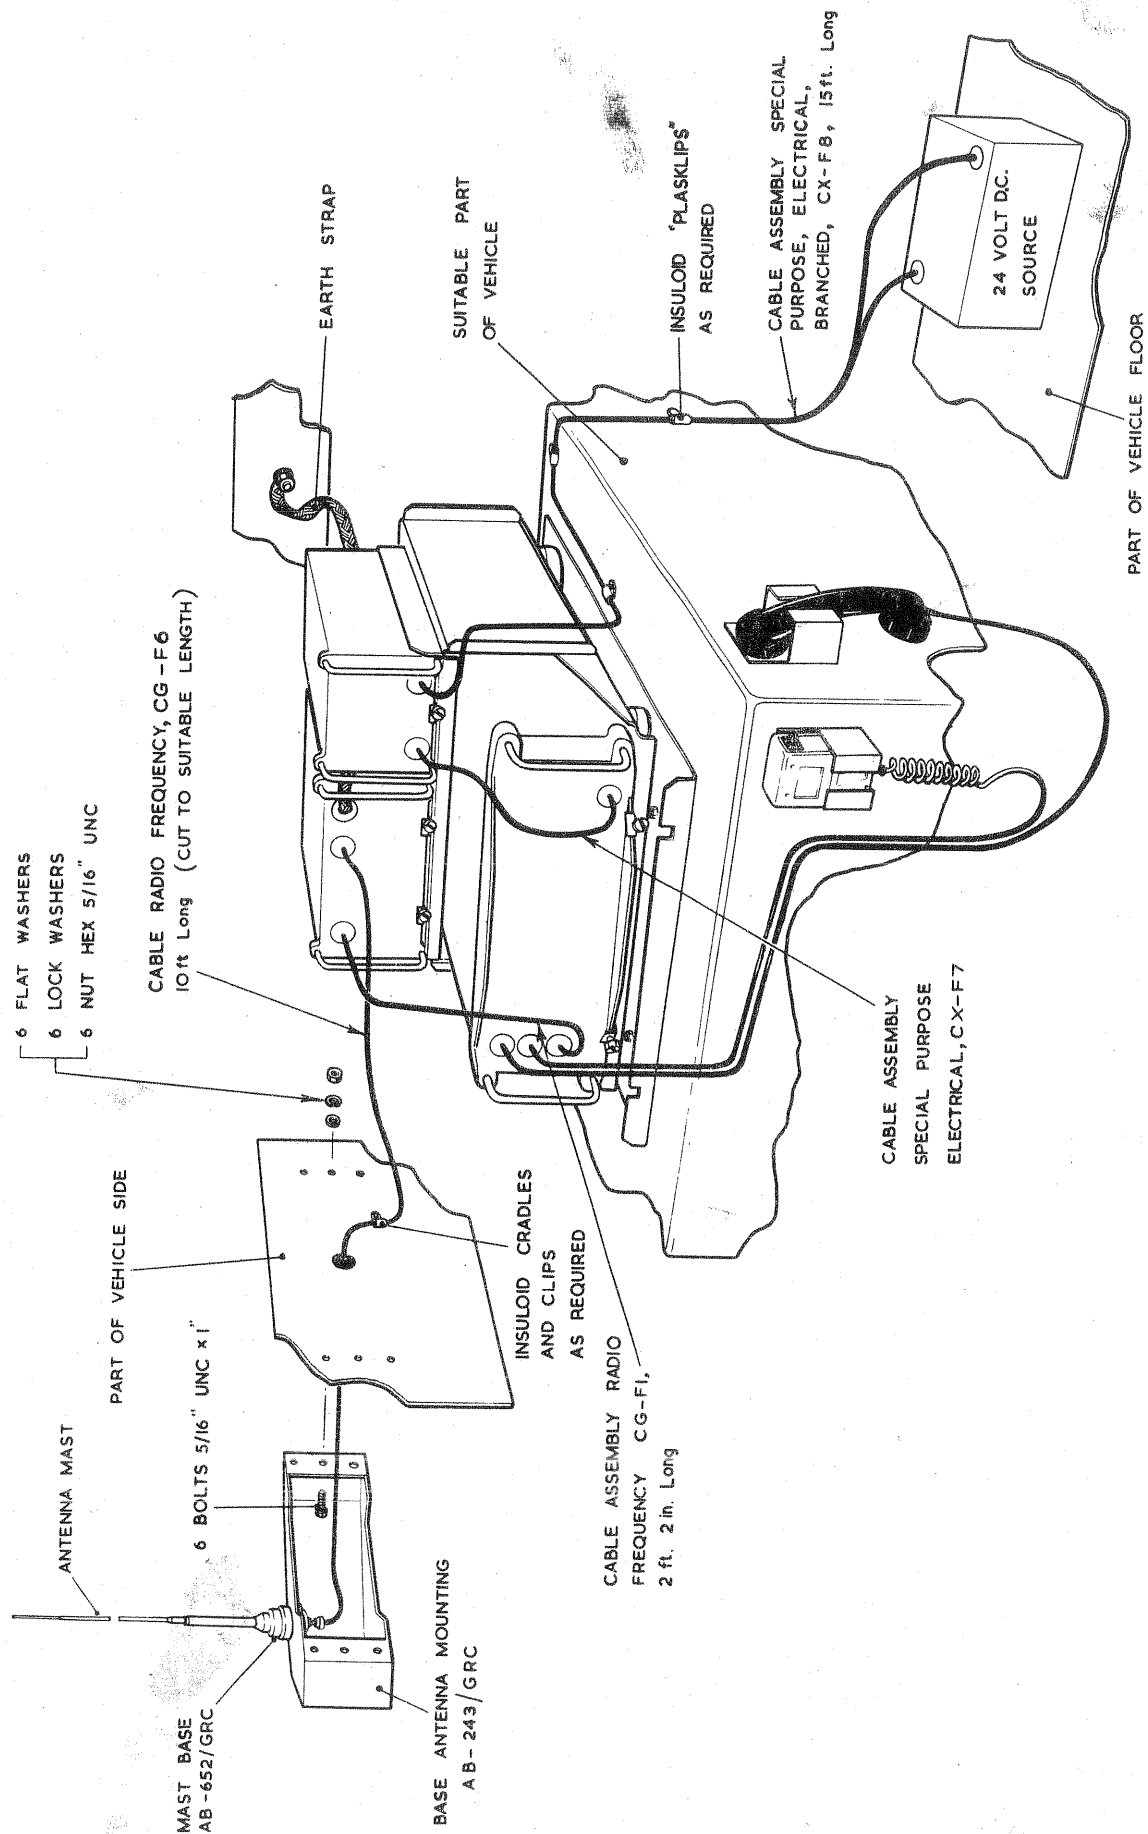

FIG 10 - RADIO SET GRC-F2 MOBILE INSTALLATION - GENERAL ARRANGEMENT
- (b) RADIO SET, GRC-F2, Mobile Installation – General Arrangement (Fig 10)
(d) Power Connections (Refer to Figure 10)
(e) Antenna Assembly (Refer to Figure 10)